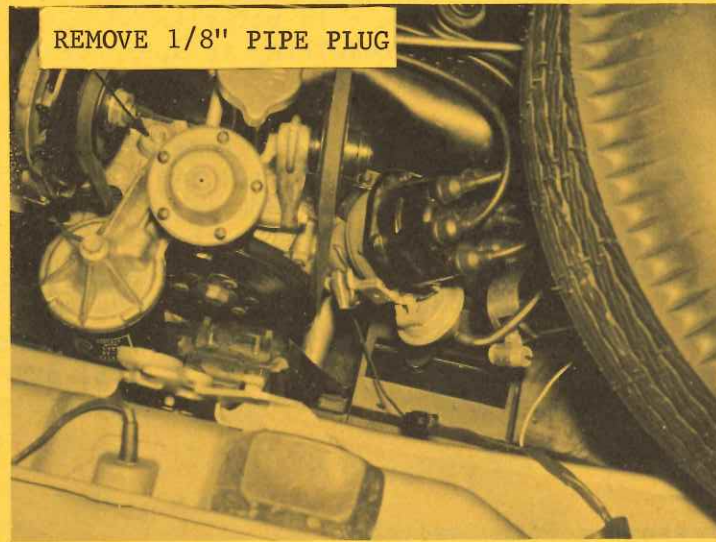

FIGURE 3
2. Remove existing 1/8" pipe plug from top of oil filter adapter assembly with reference to Figure 3, and install it in the hole formerly occupied by the oil pressure sending switch, using suitable sealer on threads.